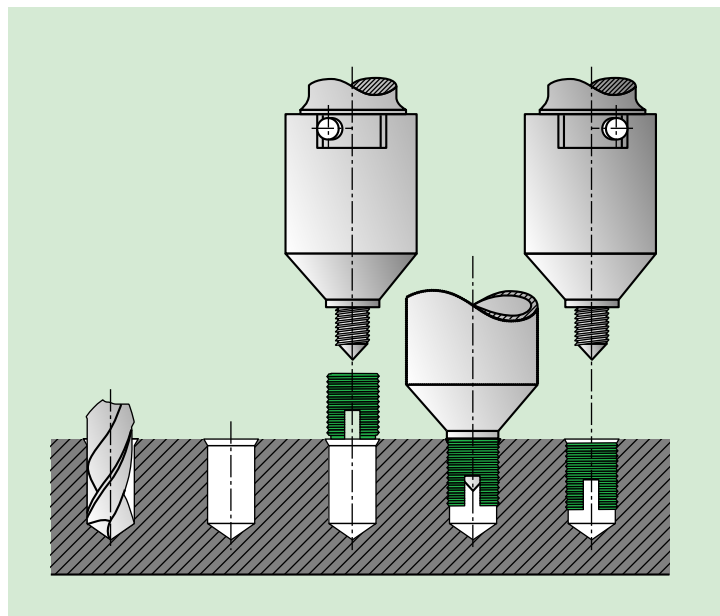

Fig. 15
Manual installation usually takes place using the manual driving tools 610 0... at the female thread or when using tools 610 2... at the hexagonal socket. The machine tools can naturally also be used for manual installation. However, here it is important to ensure that the rotatable shell (2) is positioned correctly (see fig. 15 process description).
3. Take care not to tilt sideways. In machine tools, the rotatable shell (2) must rest against the externally visible stop pins so that it is driven by the pins in the clockwise direction. Screw in the Ensat[®] until around 0.1 – 0.2 mm under the workpiece surface.